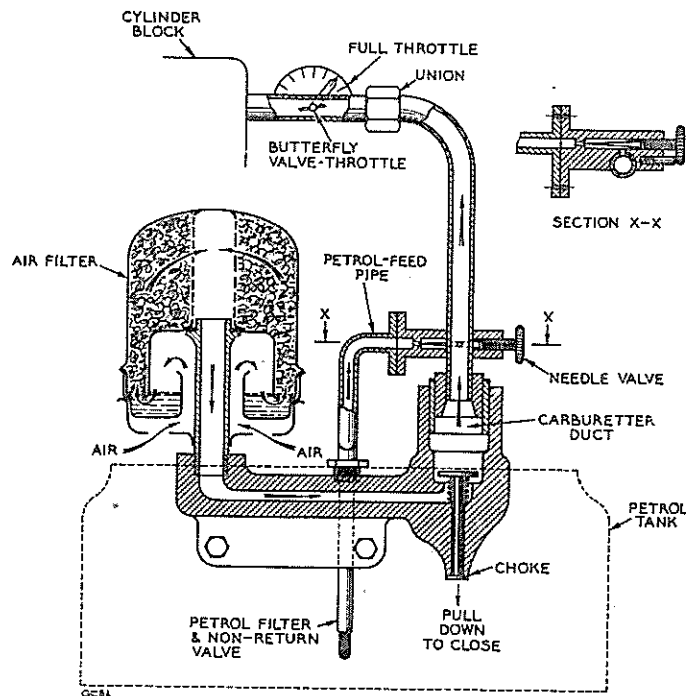

FIG.4. PETROL FEED ARRANGEMENT ON "TINY-TIM" GENERATING SET
6. The carburettor and inlet tube arrangement is shown in Fig.4. The carburettor is of the self-lift type with needle valve adjustment. During the suction stroke, air is drawn through the air filter and choke and in passing through the carburettor duct creates a partial vacuum, and petrol is drawn from the tank through the petrol feed tube and through the needle valve into the duct where it mixes with the air. The air-petrol mixture then passes through the inlet tube throttle and inlet valve to the cylinder. The air-petrol mixture is weakened by rotating the needle-valve clockwise and is made richer by anti-clockwise rotation. The choke is closed by pulling down the disk at the base of the carburettor and is opened when the disk is released. A non-return valve is fitted in the petrol-feed tube to prevent petrol from draining back to the petrol tank on completion of the suction stroke. The air filter should be cleaned as necessary and replenished with lubricating oil up to the oil level.